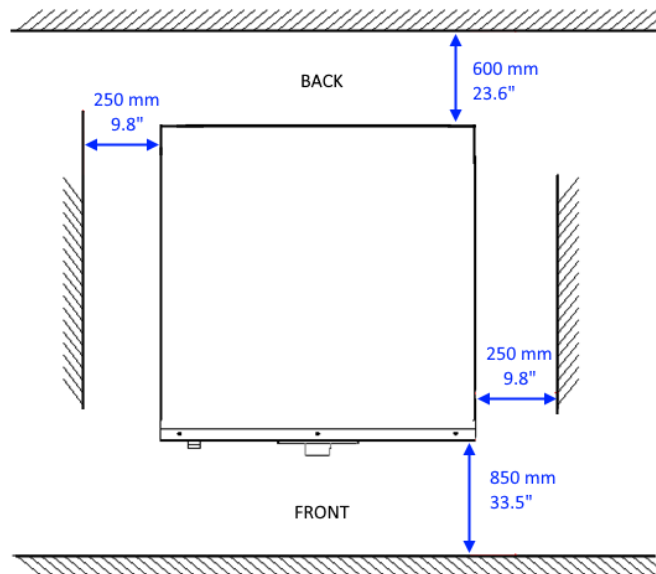

Figure 5-1: Required Clearance Placement
2. Leave sufficient space around the device for ventilation and maintenance access (refer to Figure 5-1). Do not block the cooling fan opening in case of internal temperature gets too high and has a negative impact on product life.